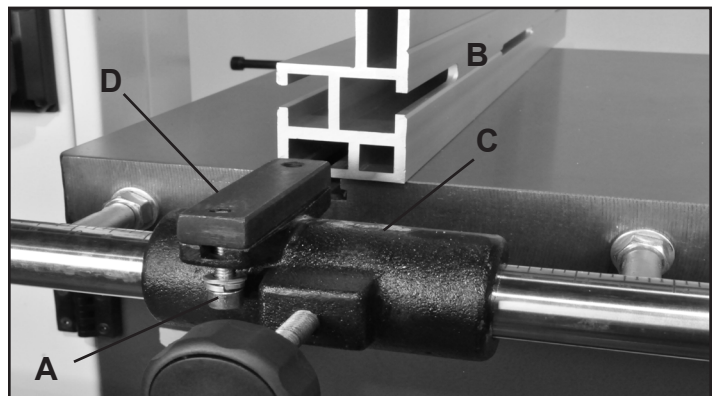

FIGURE 35
1. Loosen the two Hex Screws (A, Fig. 35) which hold the Rip Fence (B, Fig. 35) to the Fence Carrier (C, Fig. 35). Slide the fence forward to remove it from the carrier's Sliding Block (D, Fig. 35).
3 Loosen the two Hex Screws (#10F, Fig. 35, A) which hold the Rip Fence (#1F) to the Fence Carrier (#6F). Slide the fence forward to remove it from the carrier's Sliding Block (#5F).